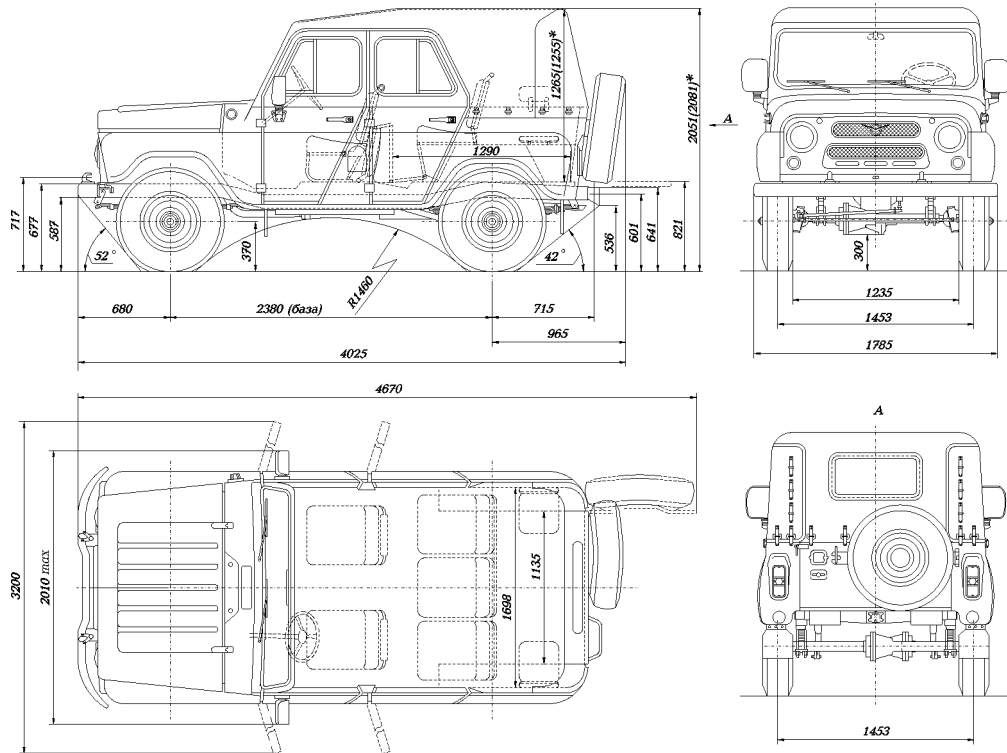

Fig. 4. Overall Dimensions of Automobiles YA3-31512, YA3-31514, YA3-31519 provided with axles with hub drives (dimensions are given for reference)
* Some automobiles could be equipped with the driving axles with the hub drive (Fig. 4)
Note. Dimensions of automobiles provided with axles with hub drive see in Fig. 4